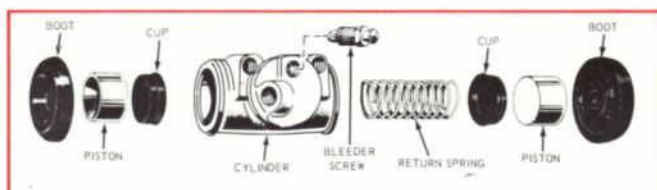

Figure 18—Typical Wheel Cylinder
1. Remove the links and the rubber boots from the ends of the brake cylinder. Remove the pistons, cups, and return spring from the cylinder bore (Fig. 18).
3. Insert the return spring, cups, and pistons into their respective positions in the cylinder bore (Fig. 18). Place a boot and link over each end of the cylinder. Install shoes and return springs. Bleed the brake system.